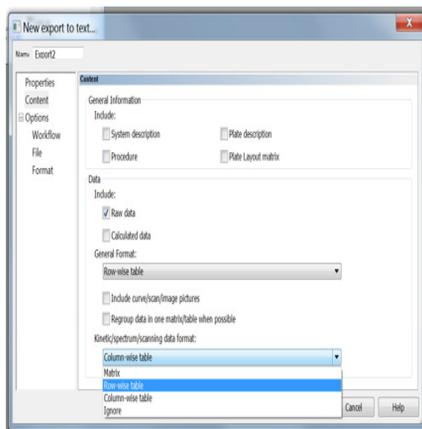

Figure 18. Exporting a Data File in Gen 5 Software, Settings for Content Tab.
- 4 Select **Content**. See **Figure 18**.